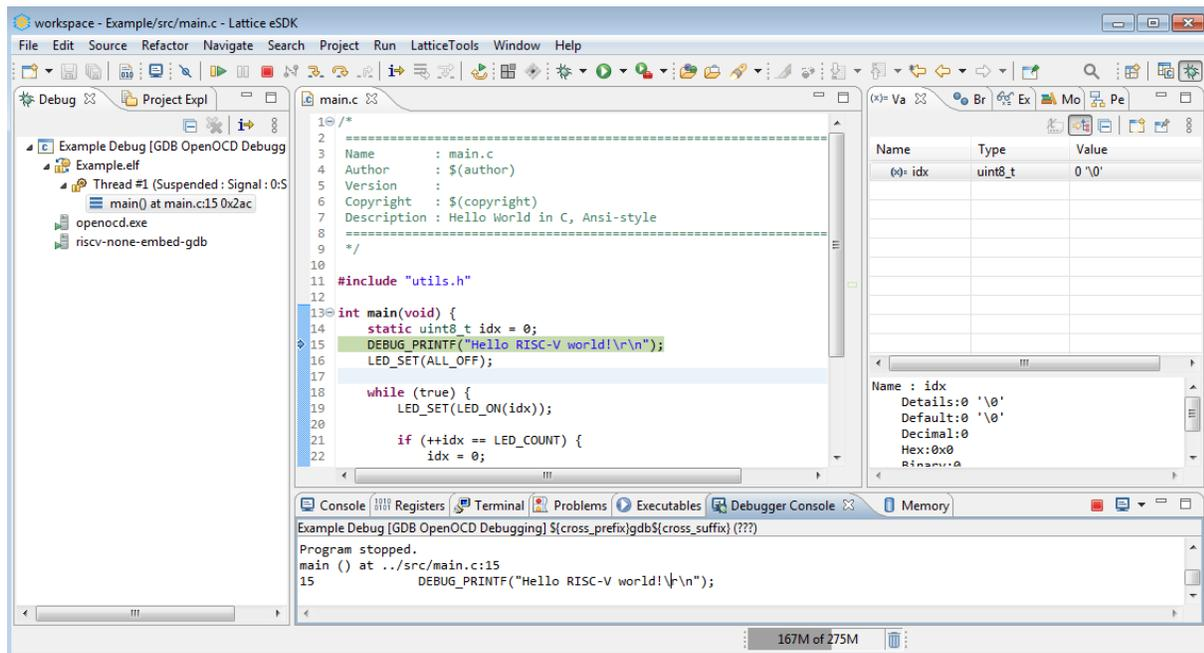

Figure 3.28. Debug Perspective
- The Propel Window displays as shown in Figure 3.28. The execution stops right at the beginning of the *main()* function.